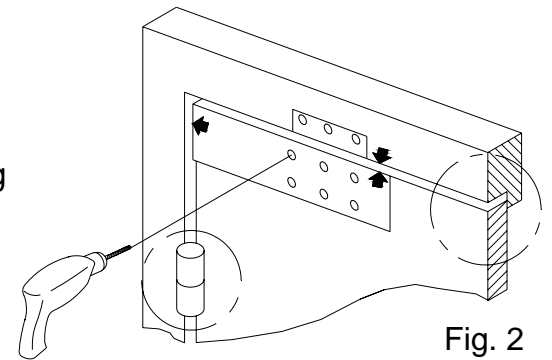

Fig. 2
3. Determine the power size of door closer required. Drill pilot holes in door & frame according to template. Remove slide plate and fix door closer body with screws supplied, ensuring correct fitting holes are used (See Figs. 2 & 3)